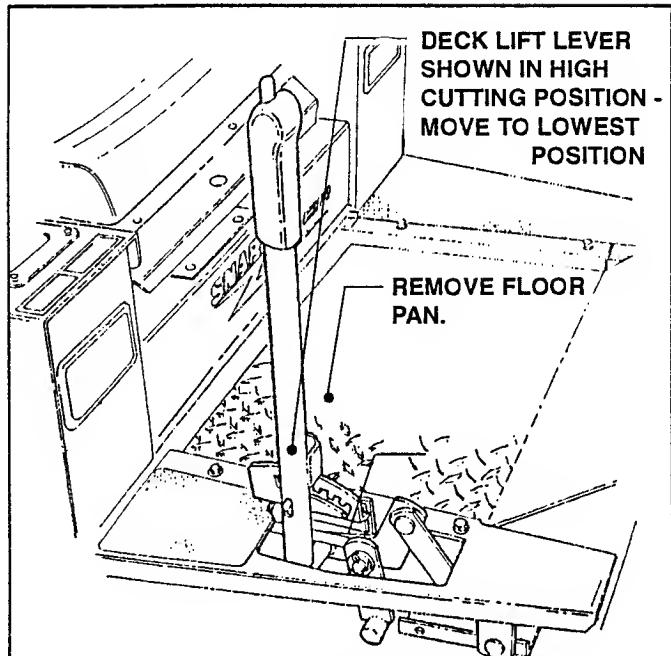

FIGURE 8.4
2. Remove Floor Pan to gain access to Mower Belt. See Figure 8.4.